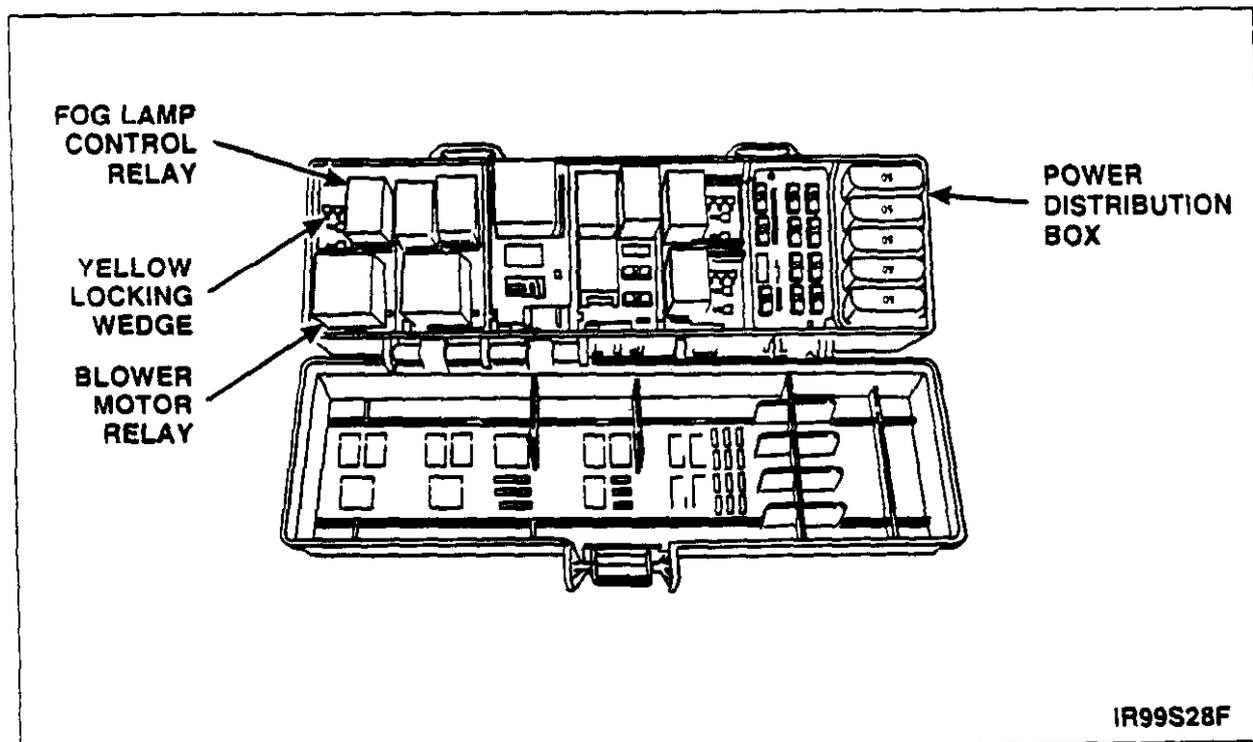

FIGURE 6
19. Open the power distribution box. Remove the fog lamp control and blower motor relays from the power distribution box, then remove the yellow locking wedge. See Figure 6.